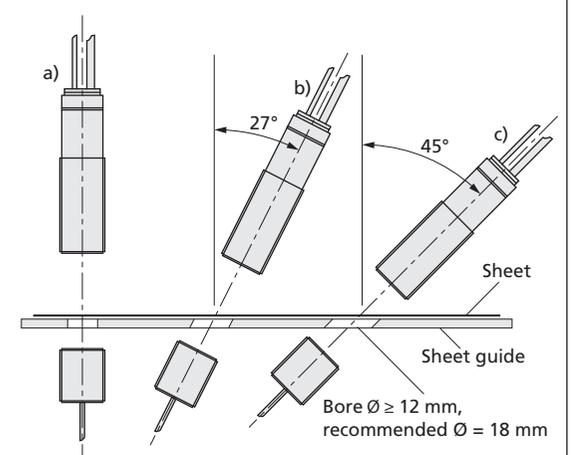

Fig. 4: Installation positions
- If you install the transmitter in a recessed position or position a sheet guide between the transmitter and receiver, the hole must have a minimum diameter of ≥ 12 mm, but we recommend a diameter of 18 mm (Fig. 4).